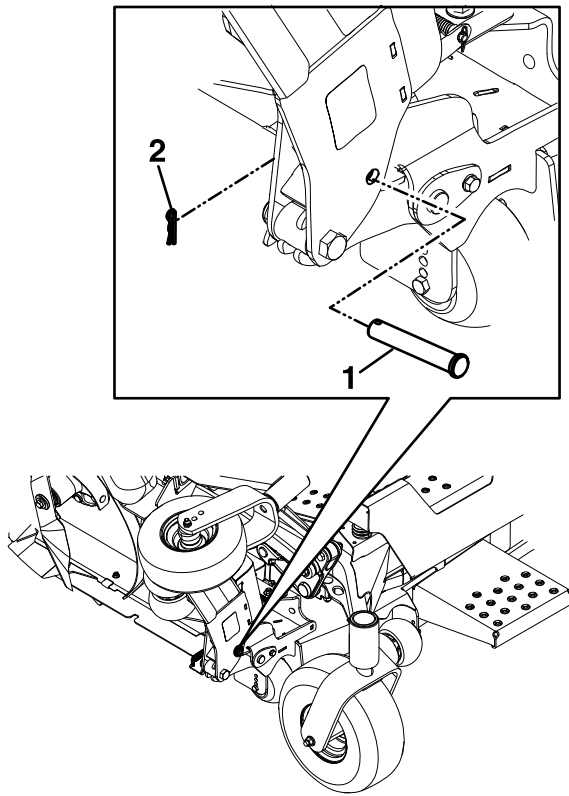

Figure 19
3. Remove the clevis pin and hairpin from the storage location and secure each wing in the up position as shown in Figure 19.